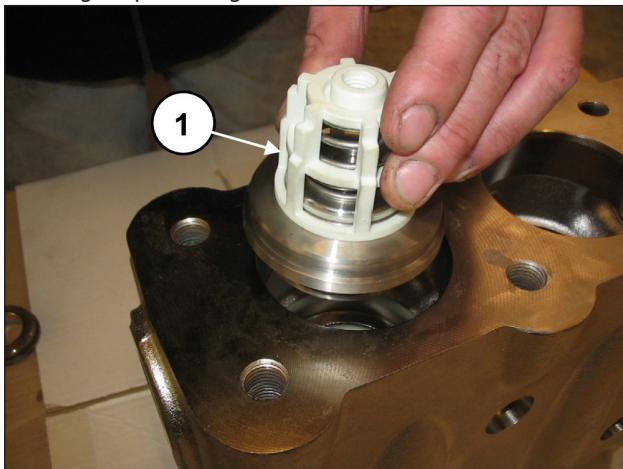
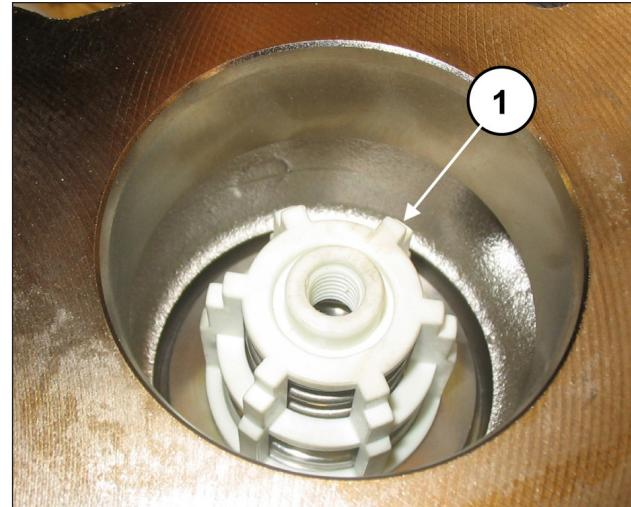

Fig. 120
Fig. 121
Insert the outlet valve unit (pos. ①, Fig. 120). The valve unit must be fully inserted into the bottom and should look like the image in pos. ①, Fig. 121.